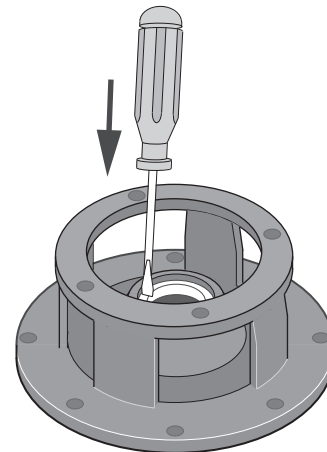

Figure 5
9. Place adapter/seal plate face down on bench and drive old stationary half of seal out of adapter/ seal plate by carefully tapping with screwdriver and hammer (Figure 5).